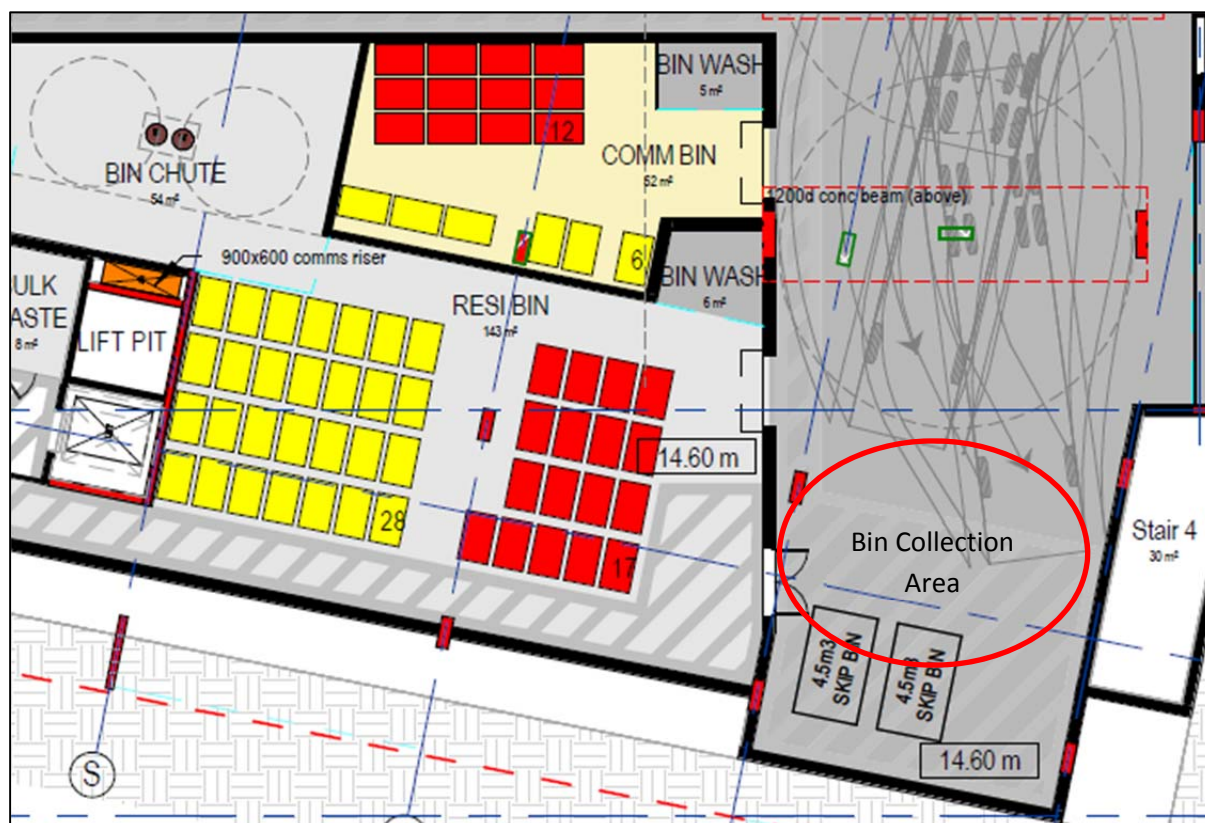

Figure 4: Bin collection area
- The waste collection truck will drive into the loading dock in a forward motion and reverse up to the bin collection area that is adjacent to the main bin store, refer **Figure 4**;